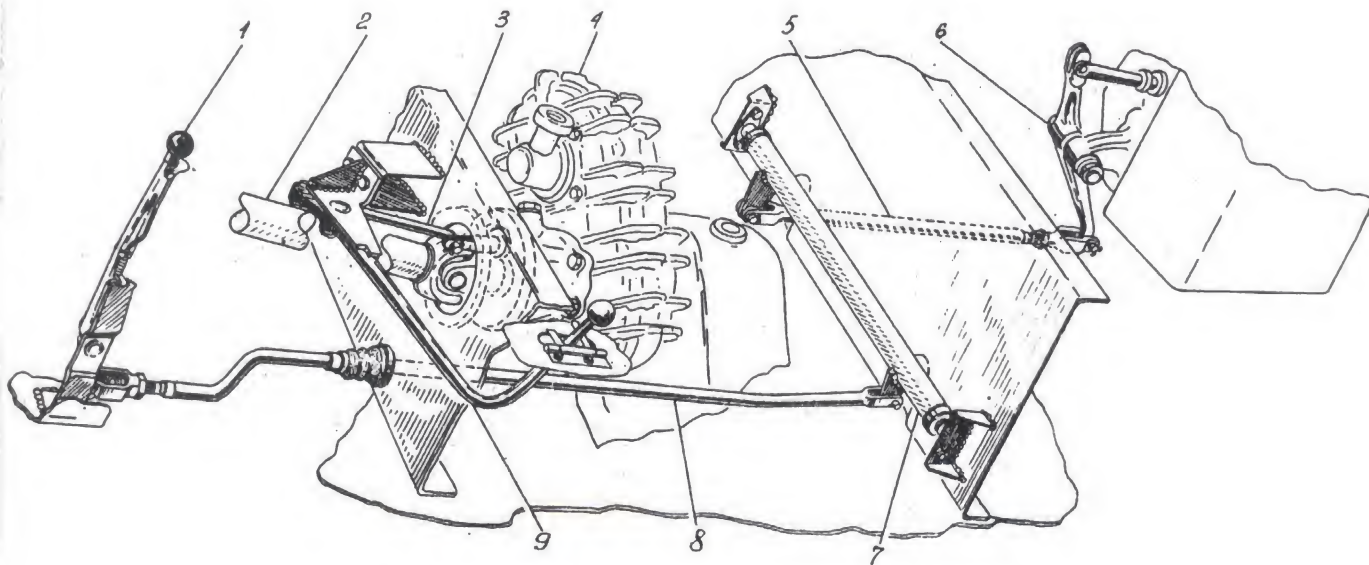

FIG. 32. WATER-JET PROPELLER AND WINCH CONTROL LINKAGE
1. Latch water-jet propeller control lever 1 (Fig. 32) in the middle (neutral) position.
4. Screw the fork of rod 5 (see Fig. 32) in or off to align holes in the fork on those in the lower end of lever 6.
Mounted on the front end of the reduction unit housing is winch power take-off 1 controlled with control lever 9 (Fig. 32). The control lever has two fixed positions: forward (when the power take-off is disengaged) and rearward (when the power take-off is engaged).